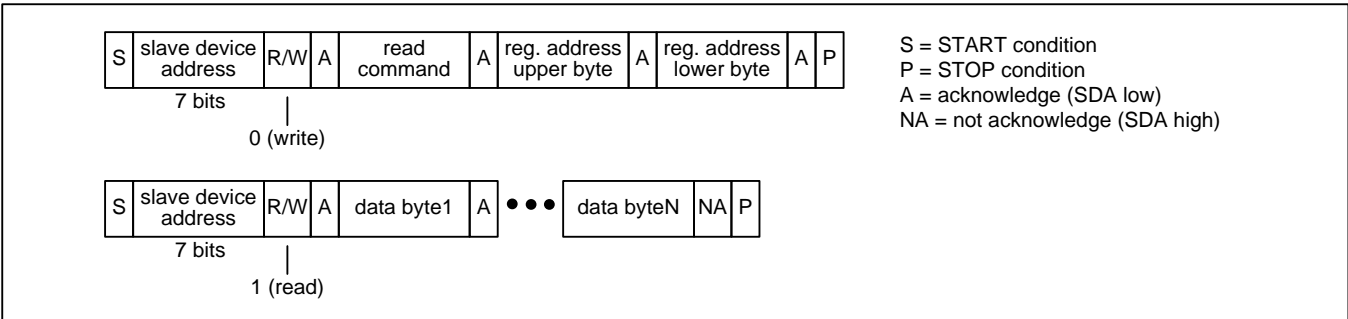
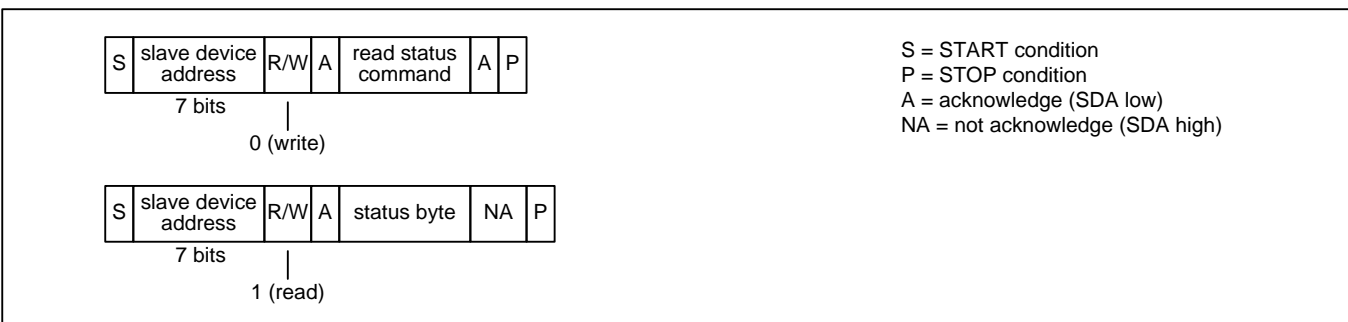

Figure 9 - I²C Read Transaction Functional Timing
Figure 12 - I²C EEPROM Read Status Transaction Functional Timing (ZL30265 and ZL30267 Only)
Read Transactions. The device registers are accessible when the **EESEL** bit is 0. On ZL30265 and ZL30267 the internal EEPROM memory is accessible when the **EESEL** bit is 1. On ZL30264 and ZL30266 the **EESEL** bit must be set to 0. The bus master first does an I²C write to the device. In this transaction three bytes are written: the SPI Read command (see Table 3), the upper byte of the register address, and the lower byte of the register address. The bus master then does an I²C read. During each acknowledge (A) bit the device fetches data from the read address and then increments the read address. The device then transmits the data to the bus master during the next 8 SCL cycles. The bus master terminates the read with a not-acknowledge (NA) followed by a STOP condition (P). See Figure 9. After the I²C write there can be unlimited idle time on the bus before the I²C read, but the device cannot tolerate other I²C bus traffic between the I²C write and the I²C read. Care must be taken to ensure that the I²C read is the first command on the bus after the I²C write to ensure the two-part read transaction happens correctly.
EEPROM Read Status (ZL30265 and ZL30267 Only). The bus master first does an I²C write to transmit the SPI Read Status command (see Table 3) to the device. The bus master then does an I²C read to get the status byte. In this byte, the least significant bit is set to 1 if the transfer is still in progress and 0 if the transfer has completed. See Figure 12. Similar to read transactions described above, the I²C write and the I²C read cannot be separated by other I²C bus traffic.
Note: In Figure 9 through Figure 12, a STOP condition (P) immediately followed by a START condition (S) can be replaced by a repeated START condition (Sr) as described in the I²C specification.